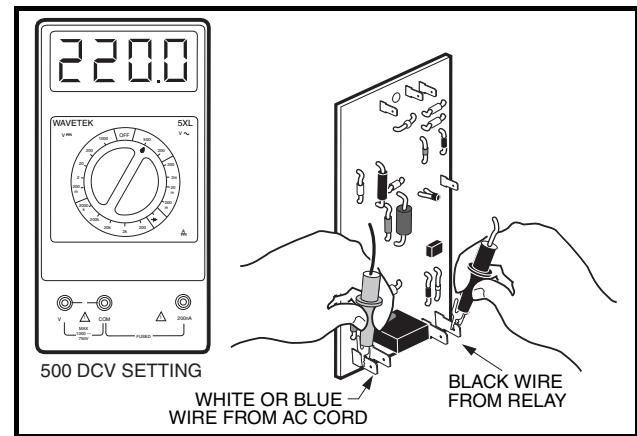

Figure 6-7 AC Circuit Test
3. Place black (–) probe of multimeter, set to 500 volts AC, onto terminal with black wire from relay. Connect red (+) probe to terminal from which the white or blue AC cord wire was disconnected (**Figure 6-7, Page 6-12**).